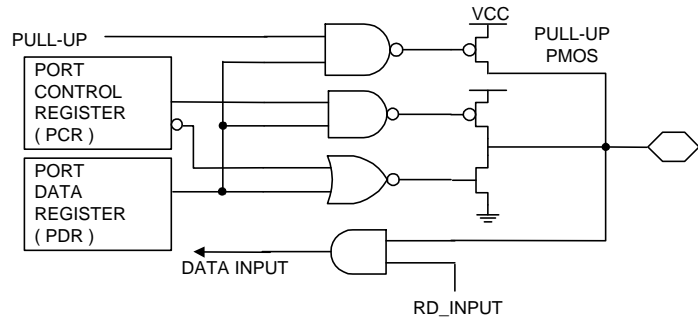

FIGURE 9-1 Port-A Block Diagram
Port-A contains pull-up MOS transistors controlled by software. When an I/O is used as input. The ON/OFF Of the pull-up MOS transistor will be controlled by port Data register (PA) and the pull-up MOS will be enabled With "1" for data bit and disable with "0" for data bit. The PULL control bit of PMCR controls the ON/OFF of All the pull-up MOS simultaneously. Please refer to FIGURE 9-1.
accomplished by reading Port-A. When programmer enables INTX and PT interrupts, PA0 trigger occur. INTX and PT interrupts will therefore happen sequentially. Please refer to FIGURE 9-1.